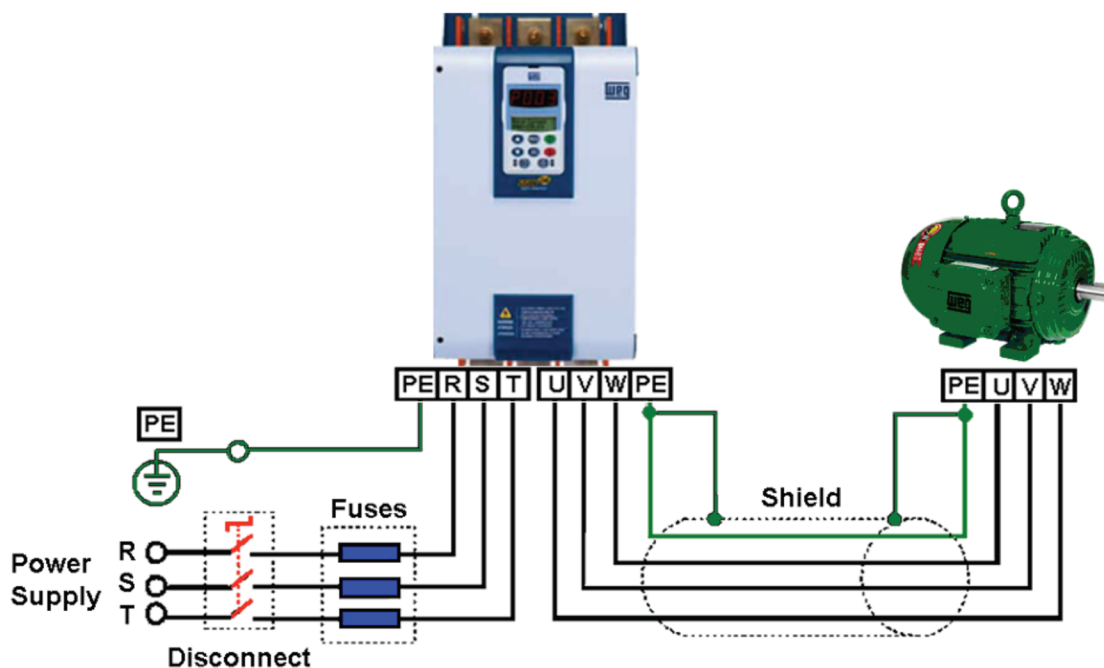

Figure 1 - Power and Grounding Connections
2. For three-phase input power connect the incoming power leads to the R, S, and T connections on the power terminal and connect the GROUND lead to PE on the chassis (Refer to Figure 1). Connect the motor leads to the U, V, and W connections on the power terminal and connect the GROUND lead to PE on the chassis (Refer to Figure 1). **Note:** Only three-phase AC motors can be used. Connect the control power leads to the connector X1A-1, 2, and PE Control voltage (94 to 253 Vac).